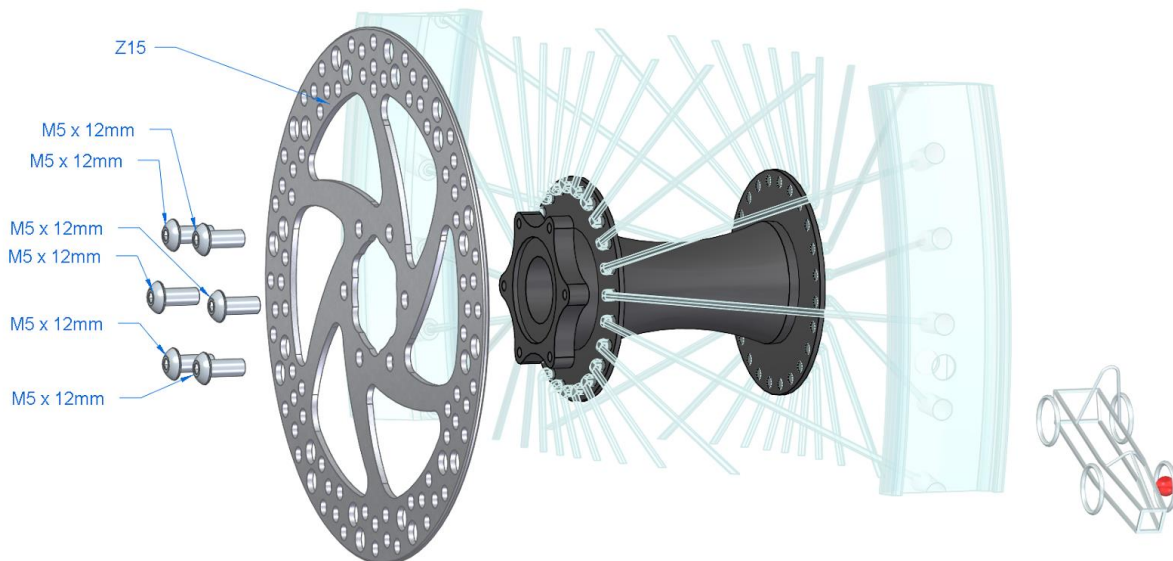

Figure 4.4.4.1
2. Attach the brake discs to the front tires as shown in Figure 4.4.4.1; make sure the arrow on the disc is pointing to the front of the car. Pay close attention and note the difference between the inside and outside of the wheel as shown in the illustration below: